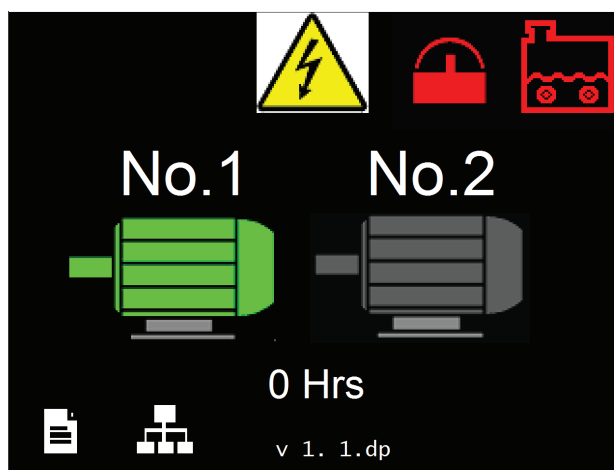

Figure 7.22 - Motor 1 Running
- » Motor No.1 starts to flash green, when fully running will change to steady green, Ref: Figure 7.22.